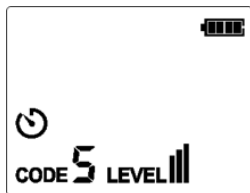

Figure 10.2.2a
3. For most applications, the default transmission strength is III (default code: 5), as shown in Figure 10.2.2a, the level shown on the LCD is III.